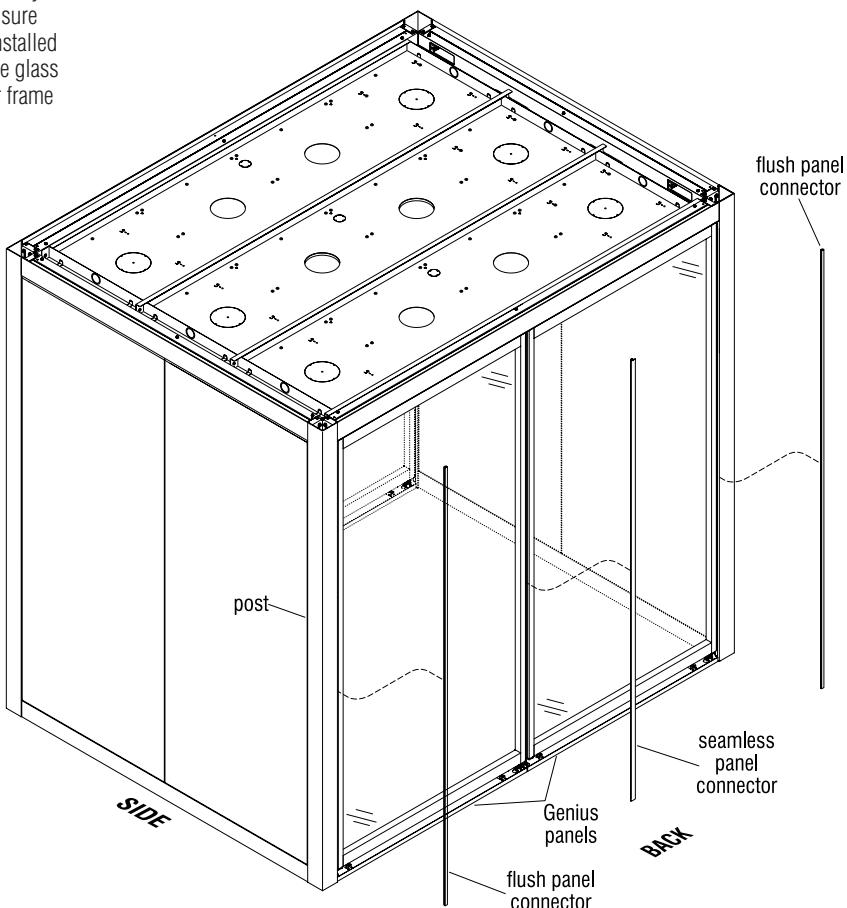

Figure 5 - Genius Flush Connector
**Important:** Genius panel frames are joined together (panel-to-panel) using a seamless panel connector. Genius panels join to corner posts (panel-to-post) using flush panel connectors, both types install both inside and outside of the super structure (Figures 5 & 6).
**Note:** Both the seamless panel connectors and the flush panel connectors install in a similar manner. See figures 5 & 6 to determine the correct location for both types of panel connectors for your super structure layout.
9. Before installing any flush, or seamless panel connector, first assure that the panel frames are plumb to each other and to the corner posts. Also assure that a  $1/16$ " gap is between each panel-to-panel frame connector and that the same  $1/16$ " gap is between each panel-to-post connector (Figures 5 & 6).
10. Beginning at the top of any panel-to-panel, or panel-to-post to be joined, insert the appropriate panel connector into the gap and use a thumb, or nylon block with mallet and work the panel connector in carefully and evenly from the top to the bottom. Install a panel connector to the inside and outside of each location (Figures 5 & 6).